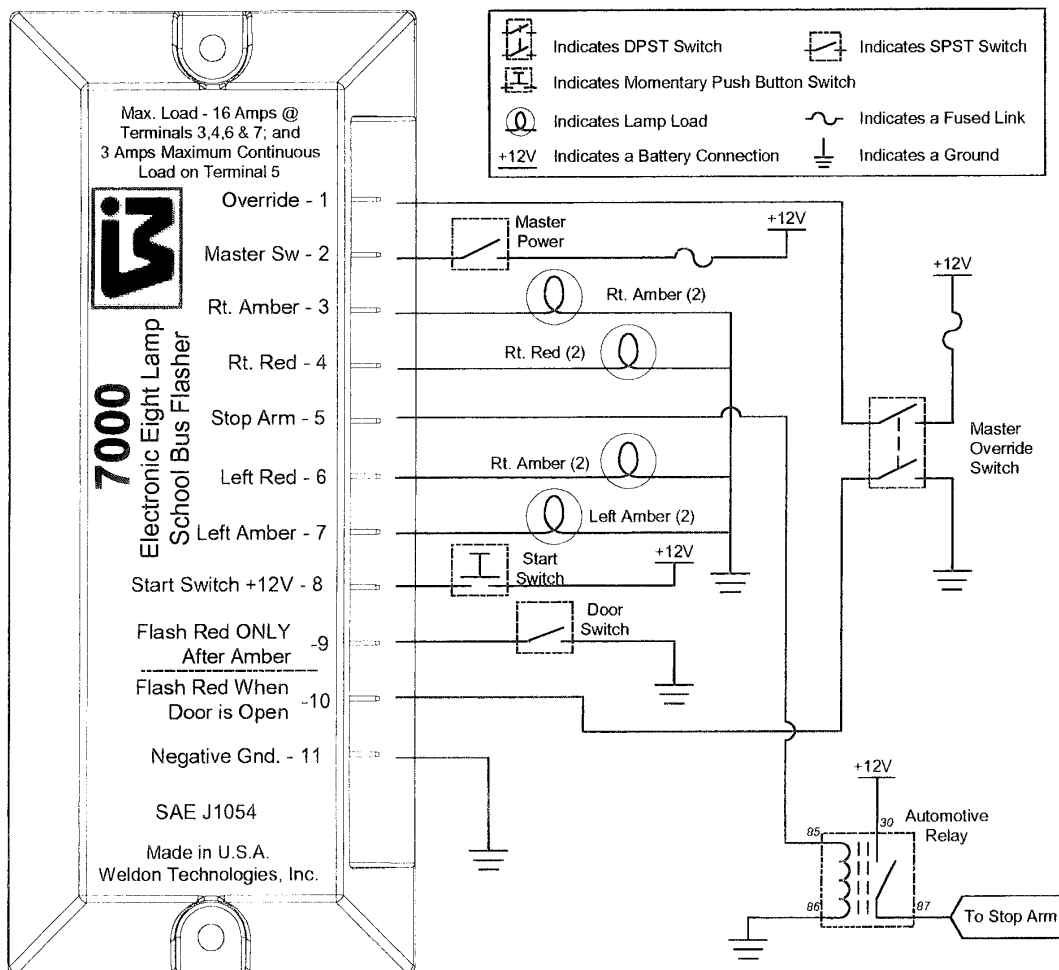

Figure 2 – Eight-Lamp Sequential Flasher Wiring Diagram with Master Override Switch
3. Wire the Flasher – Harnessing for the warning lamps, stop arm, and other devices should be run per the circuit diagrams shown in Figures 2 or 3. Connect the harness to the flasher in order from Pin 11 to Pin 1 (Ground first). The terminals are to be wired per their individual requirements discussed in the next section. The wire harness connected to the flasher should be secured to prevent fracture of the wires or terminals from road shock and vibration. The harness should be supported with strapping secured to the vehicle. **Do not use the flasher's connections to support the weight of the harness.** Power to the flasher must be fused. The fuse should be as close to the battery side of the power circuit as possible. It is not necessary to fuse the lamp output leads from the flasher to the lamps, as the flasher will protect from shorts or over-current conditions on the outputs. The fuse must be sized appropriately such that the fuse trips before damage can occur to the wire harness. Keep in mind that the inrush current on a cold bulb filament can be 10X its normal operating current. The wiring gauge and fusing must be sized to protect the system and be large enough to prevent false tripping due to normally occurring inrush currents or voltage variations. **The flasher must be grounded.** The flasher will not be capable of reliable operation without a good ground on Pin 11. **The ground wire (Pin 11) must be connected first during installation.**
2. If the RMS current draw of connected loads exceeds 3Amps or is not known, power the devices through a relay as shown in Figure 2.
A typical 8-lamp warning system installation is shown in Figure 2 below. With this setup, the flasher will alternately flash the amber lamps after the Start switch is depressed. The ambers will continue to flash until the passenger door or the master override switch is closed. Once a "door open" condition is detected, the ambers will shut down and the reds will begin to flash for as long as the "door open" condition exists. Once the door is "closed," the reds will finish cycling and the flasher will await the next operational condition.
The Stop Arm "Bounces" In and Out When the Reds are Active	<p>If the stop arm "bounces," it is because one of the red channels has shut down or failed. To test, disconnect the leads from Pins 4 &amp; 6 and recycle the flasher power. Test operation with Pins 4 &amp; 6 disconnected – the stop arm should operate correctly. Next, disconnect Pin 5 and reconnect Pins 4 &amp; 6. The stop arm will return, and the red lamps will flash. If the red lamps on one side of the bus are not flashing, then that circuit has a short or an over-current condition (too large of a current load). Check for shorts or over-current with an amp meter. If both red sides are flashing properly, reconnect Pin 5. If either of the reds quits flashing, the load has exceeded the current limit on the flasher. The stop arm equipment must be run through a relay as shown in Figure 2. If both left and right reds continue to flash correctly but the arm "bounces," then the flasher has a bad diode and the flasher must be replaced.</p>